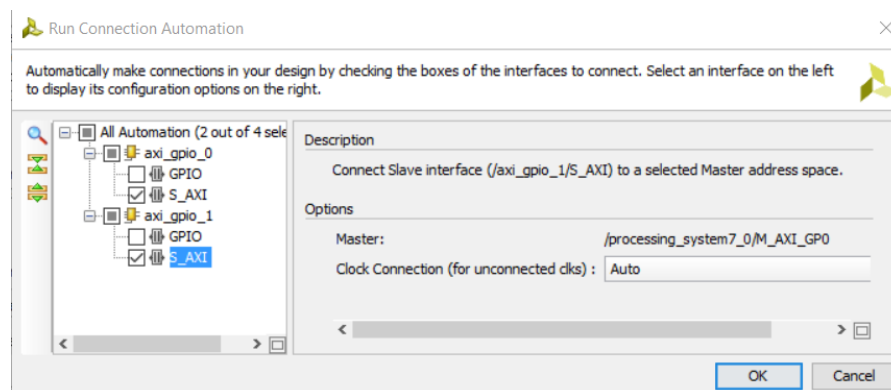

Figure 2.11: Run Block Automation - GPIOinstance 1
- (g) Click **Run Connection Automation** from the *Designer Assistance* message at the top of the *Diagram* window and select **S_AXI in Run Connection Automation**, as shown Figure 2.11.